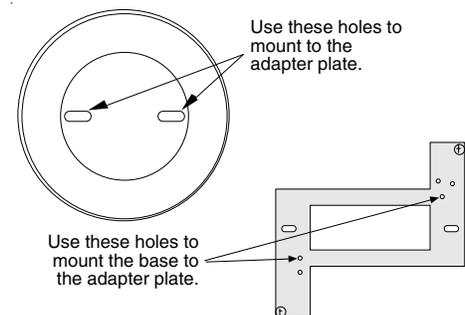

Figure 1 - Adapter plate connections
- Mount the adaptor plate to the box first (see *Figure 1*).
- Mount the base to the adaptor plate and box using the oblong mounting holes (see *Figure 1*).